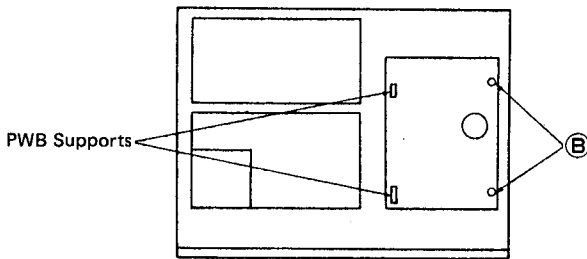

Figure 2
The servo PCB rises when the bottom panel (seven screws) and the two (B) screws are removed. (Figures 2 and 3)